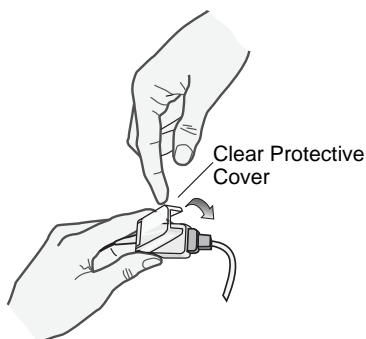

Figure 6
- Lower the clear plastic protective cover over the connection to secure it (see Figure 6).